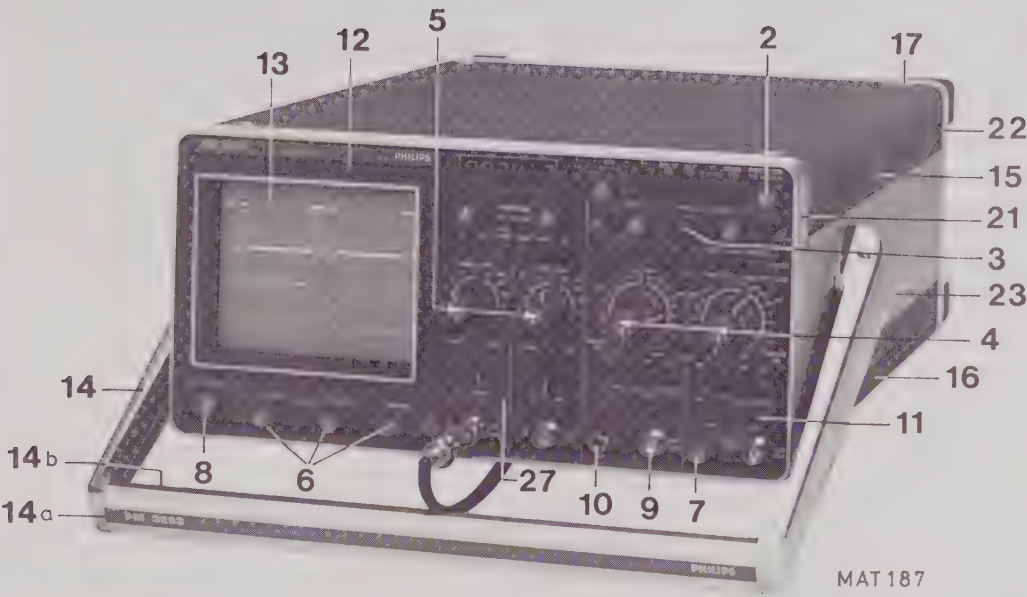

Fig. 11.1. Front view showing item numbers
11.1. MECHANICAL PARTS (see Fig. 11.1. and 11.2.)